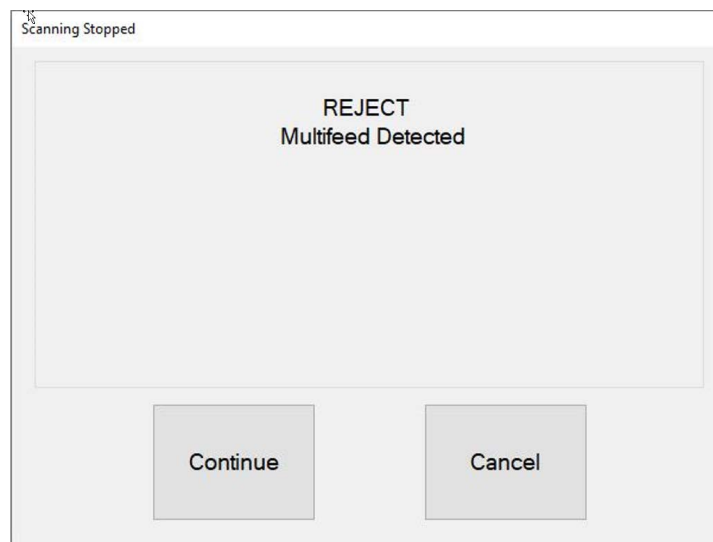

Figure 4-23: Reject condition
1. In a reject condition, an error displays on the Run screen (Figure 4-23), and scanning will automatically stop.